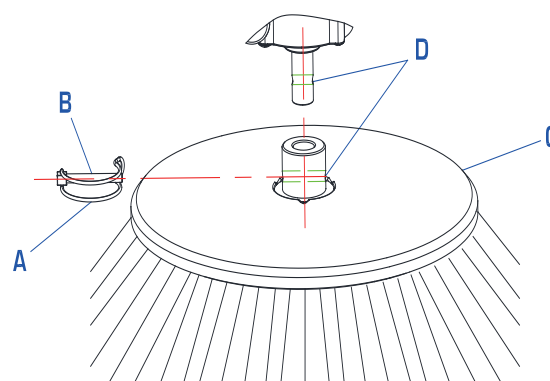

Figure8
- 1) Drive the machine on a level ground and release the pedal (2) and stop the machine.
- 3) Release the spring (A, Fig. 8), remove the pin (B) and the brush (C) from the gearmotor shaft.
- 4) Install the new side brush on the gearmotor shaft, insert the pin (B, Fig. 8) in the holes (D, Fig. 8), and engage the spring (A, Fig. 8).